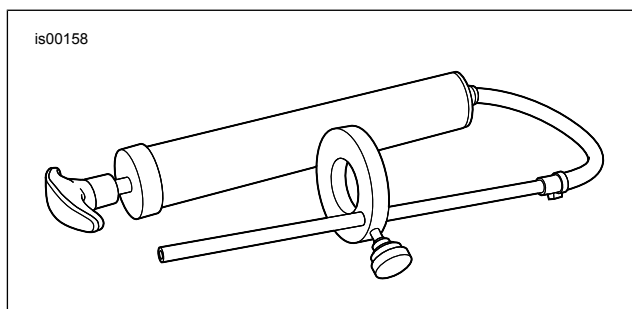

Figure 5. Front Fork Oil Level Gauge (HD-59000B)
- a. See Figure 5. Obtain the Front Fork Oil Level Gauge (HD-59000B).